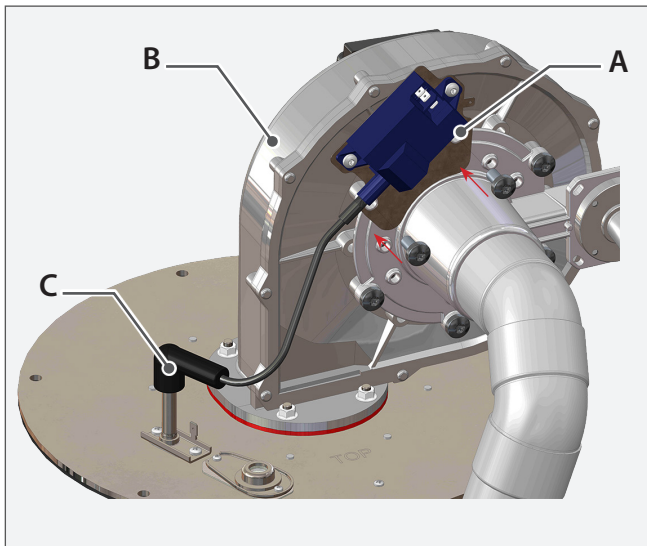

Fig. 9 - Spark Generator and Bracket (PT 399)
2. Locate the spark generator with bracket (A) on the blower (B). (See Fig. 9), and secure using 2 of the venturi-to-blower screws.
3. Connect the spark generator cable with connector (C) to the new igniter.